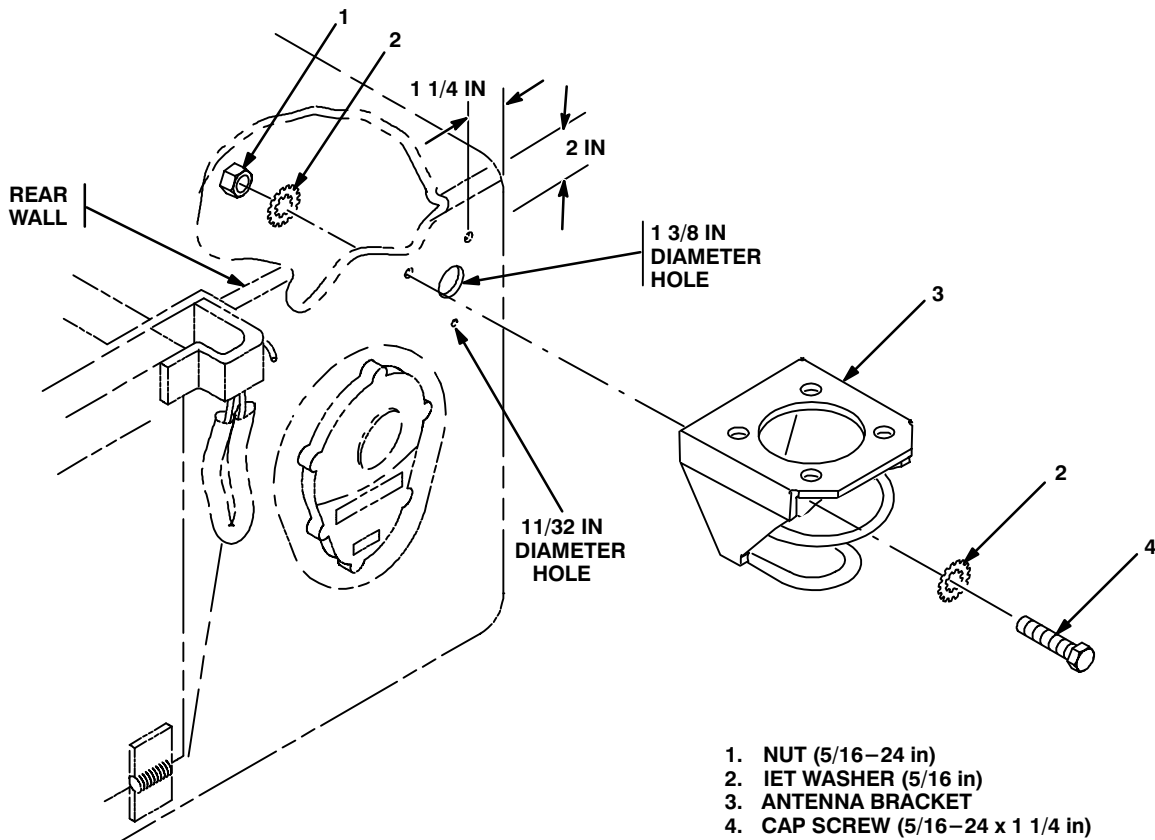

Figure 5-2 (1). Antenna Base Installation: Installing Rear Antenna Brackets
| <p>Using dimensions shown and antenna bracket as a template, drill three 11/32 in diameter holes and one 1 3/8 in hole through rear wall of vehicle. See figure 5-2 (1).</p> | | |